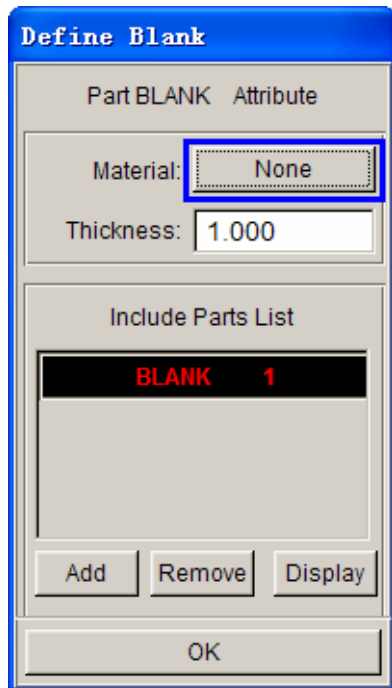

Figure 3.15: Define Blank dialog box
- 4) Click the BLANK from the Include Parts List, the selected part's color is changed into black automatically; then select the button of None behind Material to pop up the Material dialogue window, at the time all the elements in the selected part are highlighted. See figure 3.15~3.16.